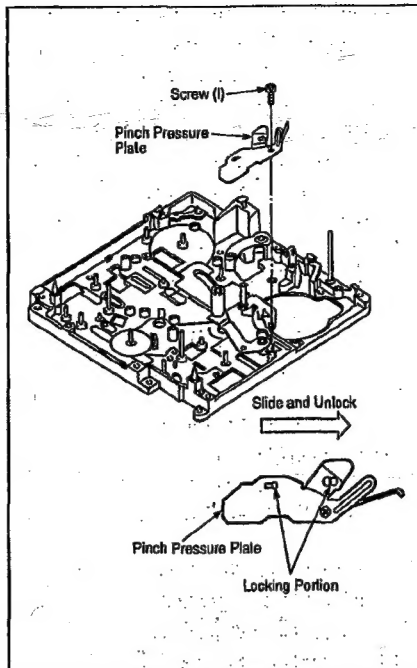

Fig. M10
| 7. Pinch Arm & unlock T3 Arm Unit | Fig. M10 | Unscrew screw (I), then slide the Pinch Pressure Plate and unlock the locking portion. |